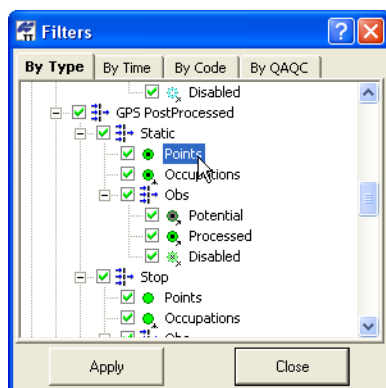

Figure 4-57. Select By Type Filter
2. On the *By Type* tab, click the desired check marks to filter data and data types (Figure 4-57 on page 4-56).
2. On the *By QAQC* (Quality Analysis Quality Control) tab, click the desired check marks to filter data and data types (Figure 4-57).